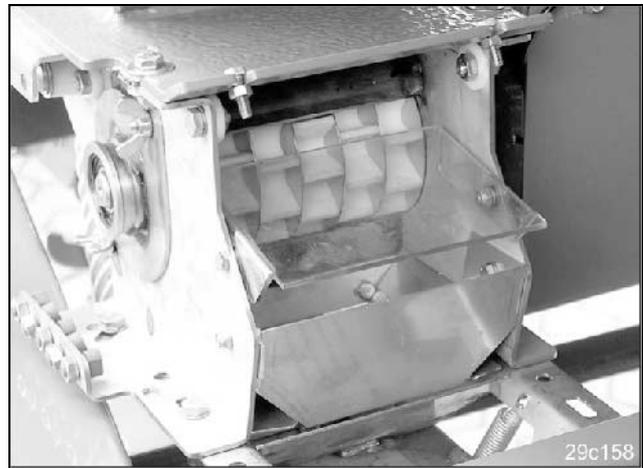

Fig. 57
- Figure (Fig. 57) shows the closed shutter slide.